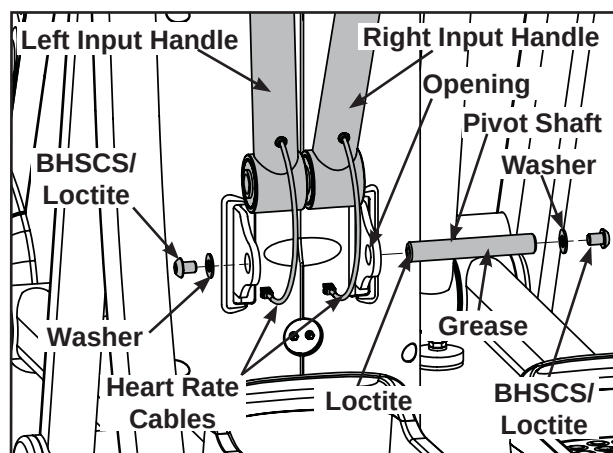

Figure 4
- B. Unplug the heart rate cables. See Figure 4.
- C. Using two 7/32" Allen wrenches, remove the BHSCS and washer from the pivot shaft. See Figure 4.
- D. Slide the pivot shaft through main frame opening to remove input handles. See Figure 4.